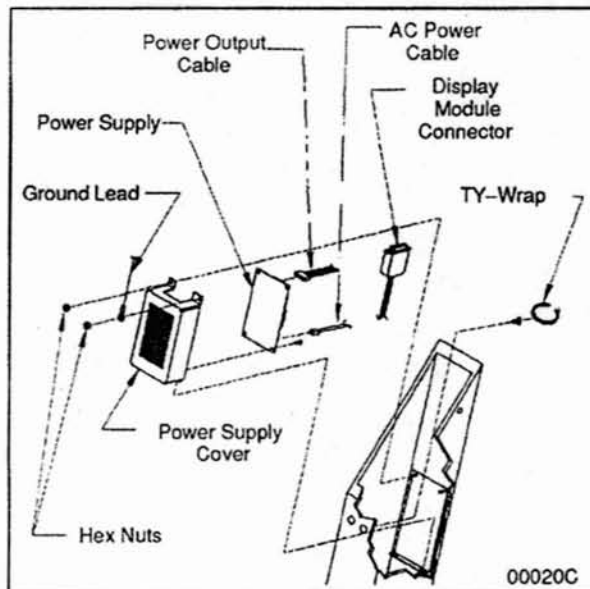

Figure 5.24 Power Supply Removal.
2. With a 5/16" nut driver, remove the two hex nuts securing the top of the power supply. Remove the lockwasher and flat washer from each stud. Remove the ground lead (P3). See Figure 5.24.
1. Position the replacement power supply in the power supply cover. The P2 six pin connector should be oriented toward the top. Refer to Figure 5.24. Secure the power supply to the cover with four pan head screws.